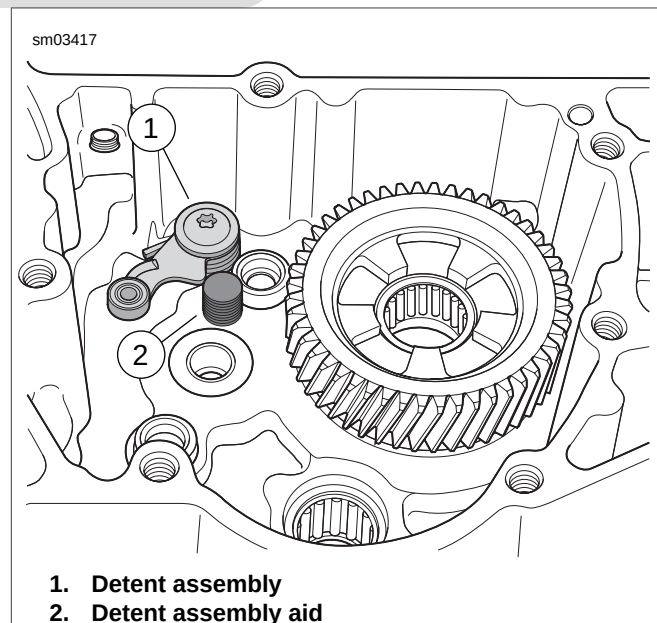

Figure 3-83. Using Gear Detent Assembly Aid (Part No. B-45520)
See Figure 3-83. The Gear Detent Assembly Aid is used to move the gear detent lever clear of the shifter drum for assembly purposes.
2. See Figure 3-83. Retract detent assembly in right case half and install GEAR DETENT ASSEMBLY AID (Part No. B-45520) until it has bottomed in right case half.